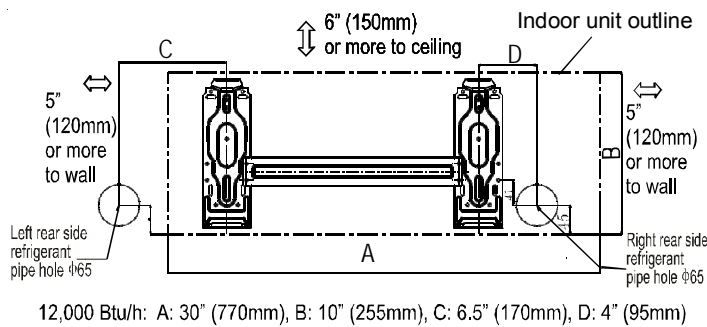

Figure 5A - 12,000 Btu/h
4. Determine the hole positions according to the diagram detailed in Figures 5A & 5B (15 SEER) and 5C (19 SEER). Drill one (1) 2.5" hole ( $\phi 65$ mm), slanting slightly to the outside.